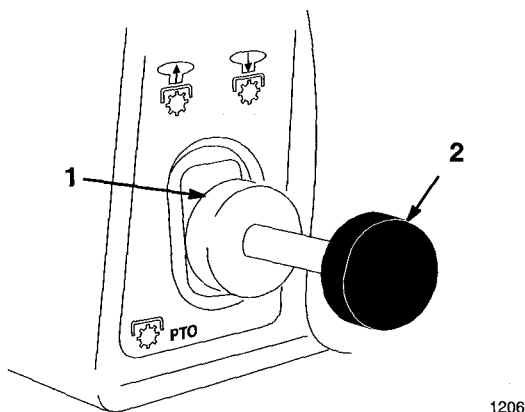

Figure 6
2. Pull the power take off (PTO) to "ON" (Fig. 6).
2. Push the power take off (PTO) to "OFF" (Fig. 6).